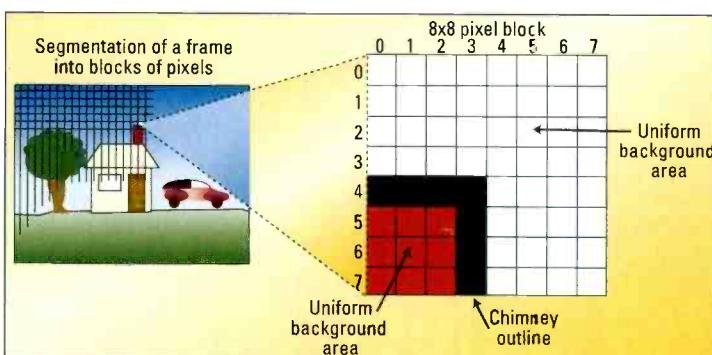

Figure 1. Formation of an 8x8 block
DCT is a lossless, reversible mathematical process that converts spatial amplitude data into spatial frequency data. As shown in Figure 1, the image is divided into blocks of eight horizontal pixels by eight vertical pixels (8x8 block) of luminance (Y) and corresponding color-difference (C_B and C_R) samples. A block of 8x8 pixels is transformed into a block of 8x8 coefficients describing the amplitude at a particular frequency. The upper left corner represents the DC component.